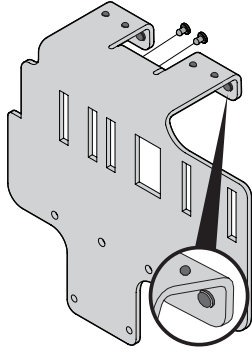

Figure 3
1. Install 12 rubber pads (735-05938) into adapter bracket (789-02278) using the mounting holes shown in Figure 3.